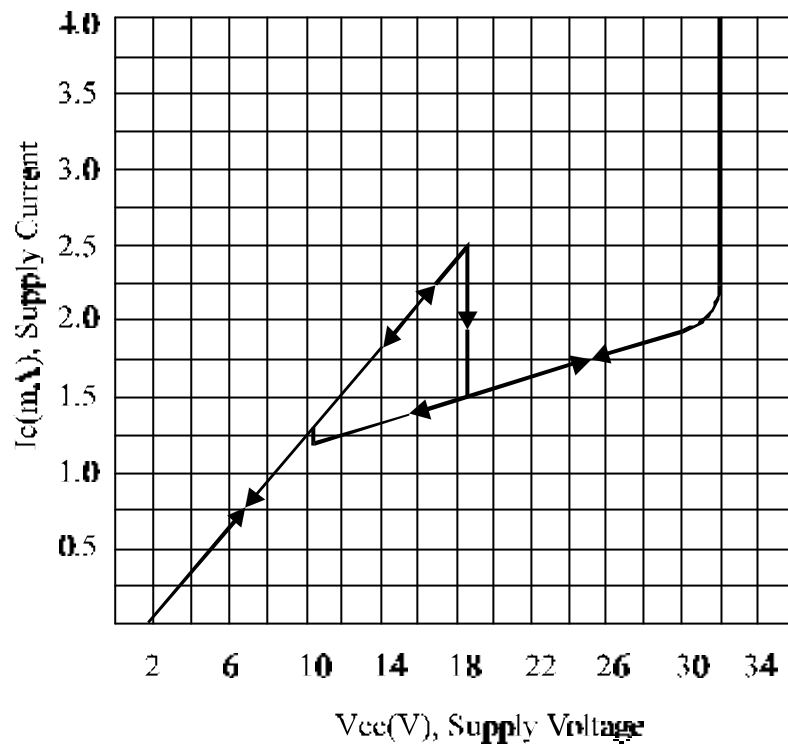

Figure 1
| $V_{SI}$  | Initiation Supply Voltage (1)         | See Figure 1                                                      | 16.8              |     | 21.2 | V             |
| $V_{SUS}$ | Sustaining Voltage (2)                | See Figure 1                                                      | 9.5               |     | 12.2 | V             |
| $I_{SUS}$ | Sustaining Current (2)                | No Load $V_{CC}=V_{SUS}$See Figure 1                          | 0.7               |     | 2.5  | mA            |